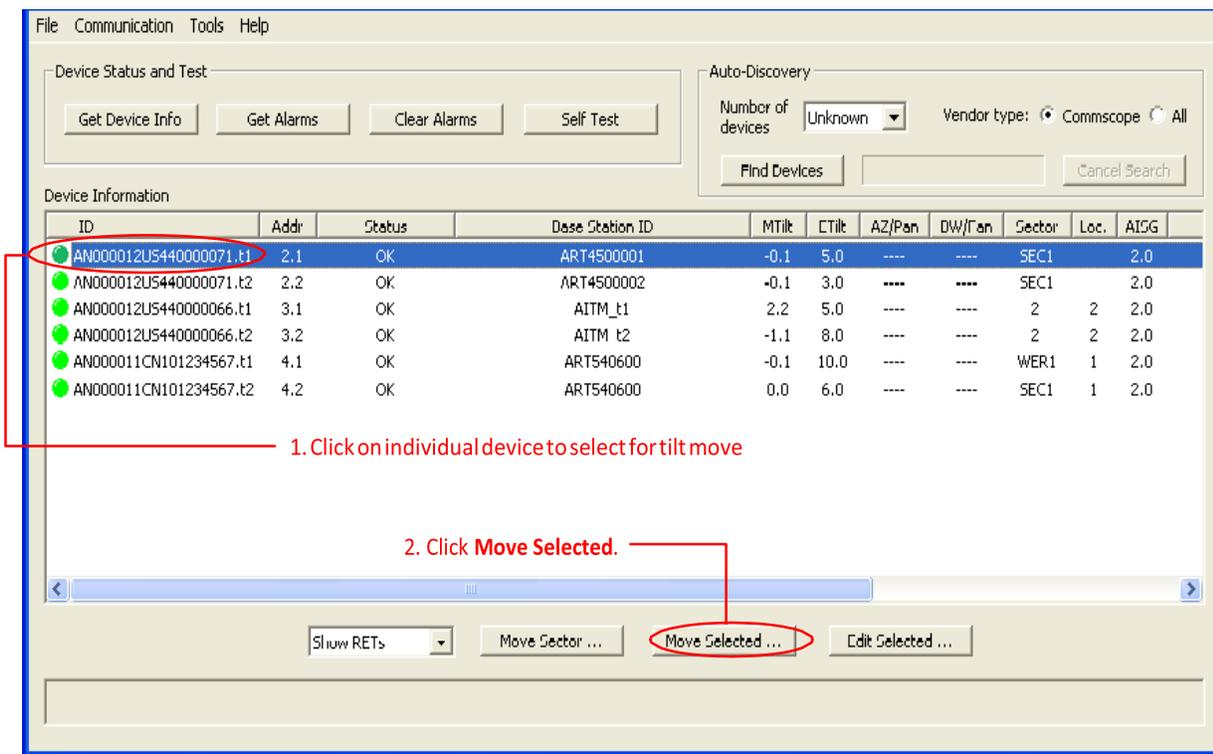

Figure 7-5. Selecting Device for Electrical Downtilt Adjustment.
2. From the **Device Information** list, click on the device to be moved (Figure 7-5).
3. Click **Move Selected** at the bottom of the screen (Figure 7-5).